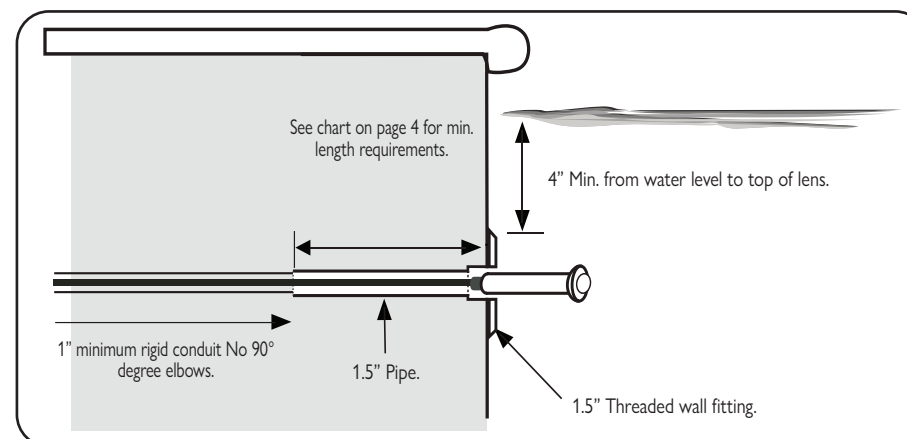

Figure 2: Standard Halco ProLED® Nicheless Light installation with 1.5" pool wall fitting.
- 1.5" pipe must be installed through the bond beam with a minimum length of fourteen (14) inches, followed by a one (1) inch conduit with sweeps. DO NOT use 90 degree elbows. It is highly recommended to use 1.5" pipe through out the entire width of the bond beam. (see Figure 2).